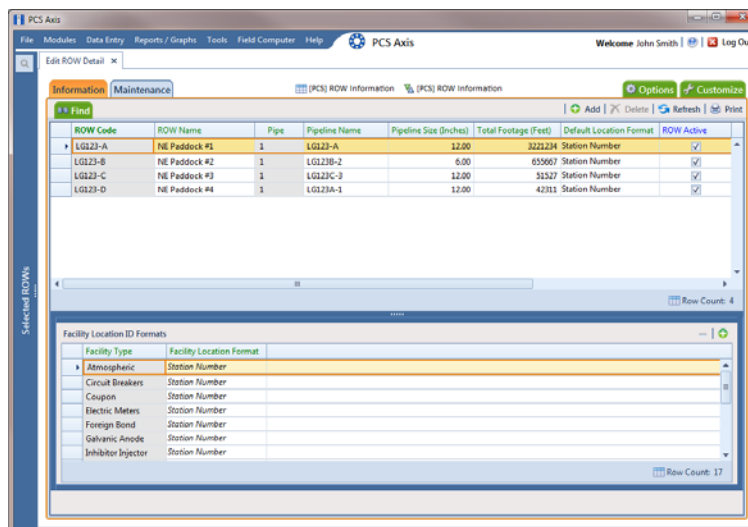

Figure 4-32. Edit ROW Detail
- 2 Click **Data Entry > Edit ROW Detail** to open the *Edit ROW Detail* window. If you want to collapse the *Selected ROWs* panel to view more of the *Edit ROW Detail* grid, click **Selected ROWs**. To expand the panel, click **Selected ROWs** again (Figure 4-32, page 132).
- 2 Click **Data Entry > Edit ROW Detail** to open the *Edit ROW Detail* window (Figure 4-32, page 132).